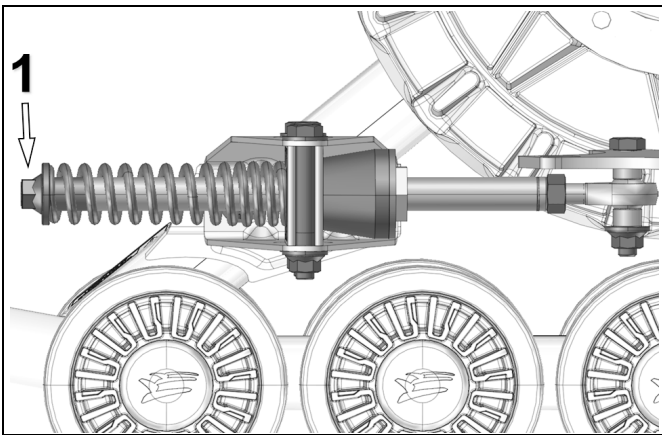

Figure 15
- Verify that spring assembly bolt is tightened to the recommended torque [40 N•m] and that stabilizing arm components are in the correct order (1). See Figure 15.